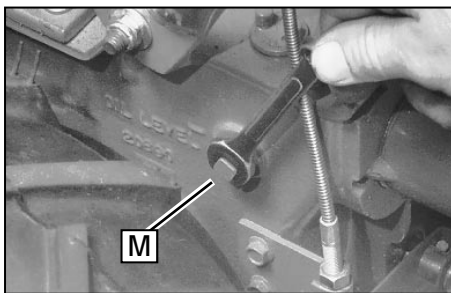

Figure 2-9: Gear oil level check plug.
2. Remove the oil level check plug (M, Figure 2-9) on the left-side of the transmission. (Due to dried paint on the plug threads, it may require some force to remove the plug the first time.) The gear oil level is correct if oil starts to flow out of the hole as the plug is removed. If so, securely reinstall the plug.
(d) Reinstall and tighten securely the gear oil fill plug (M, Figure 2-9).